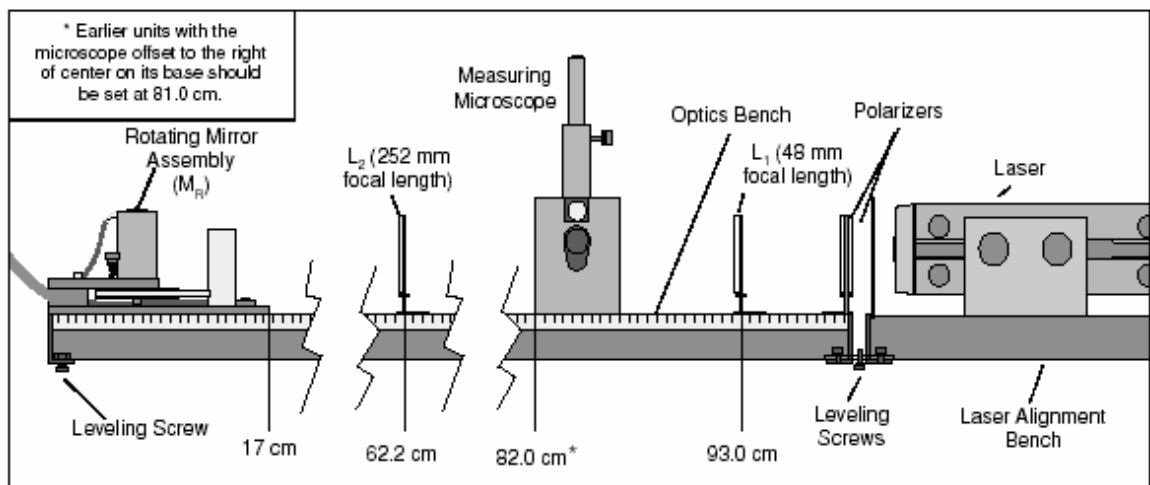

Figure 5: Equipment Alignment
For reference as you set up the equipment, Figure 5 shows the approximate positioning of the components with respect to the metric scale on the side of the Optics Bench. The exact placement of each component depends on the position of the Fixed Mirror ( $M_f$ ) and must be determined by following the steps of the alignment procedure described below.
13. Place the Measuring Microscope on the Optics Bench so that the left edge of the mounting stage is aligned with the 82.0 cm mark on the bench (see Figure 5). The lever that adjusts the tilt of the beam splitter should be on the same side as the metric scale of the Optics Bench. Position this lever so it points directly down.